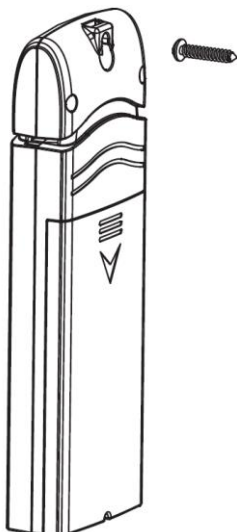

Figure 18
1. Use a screw or nail to affix the remote sensor to the wall, as shown in Figure 18.